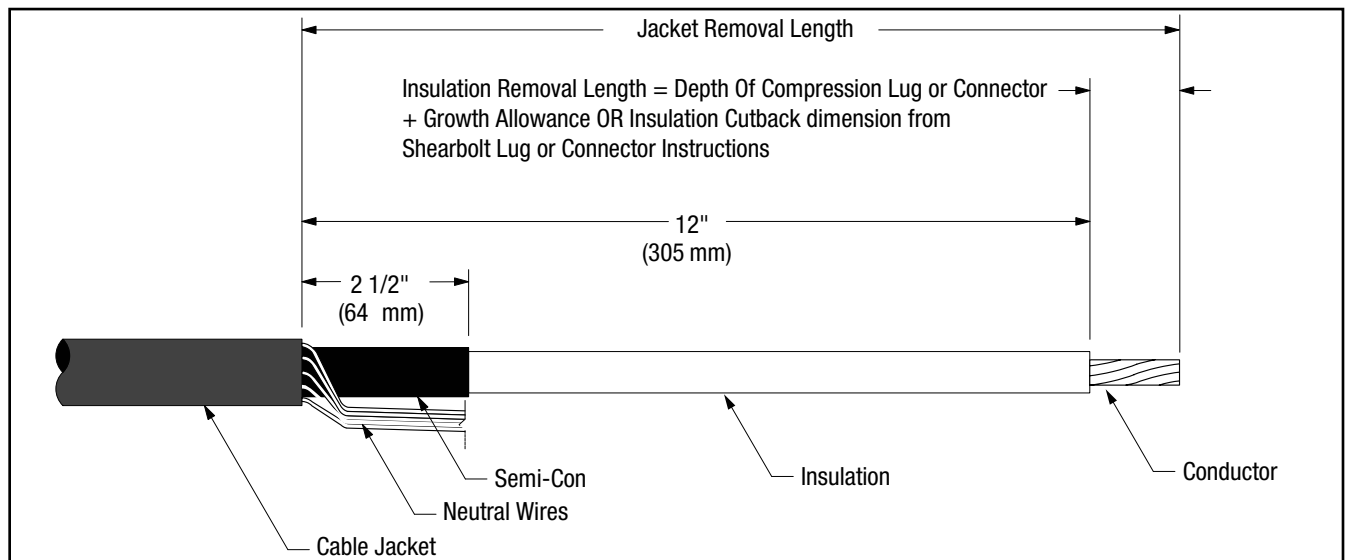

Figure 1
- 2.3 Prepare cable using dimensions shown in Figure 1. **BE SURE TO ALLOW FOR DEPTH OF TERMINAL LUG OR CONNECTOR.** If using 3M Shearbolt Lugs QL2 Series: Two Hole, or 3M Mechanical Shearbolt Connector QCI Series, proceed to Step 2.4. If using a Crimp Type (Compression) lug, measure the depth of the barrel, or if using a Crimp Type (Compression) connector, measure to the barrel center stop/midpoint, and see the NOTE below, in order to calculate the Insulation Removal Length. Table 4 can be used to assist in calculating the total Jacket Removal Length when using a compression lug or connector.